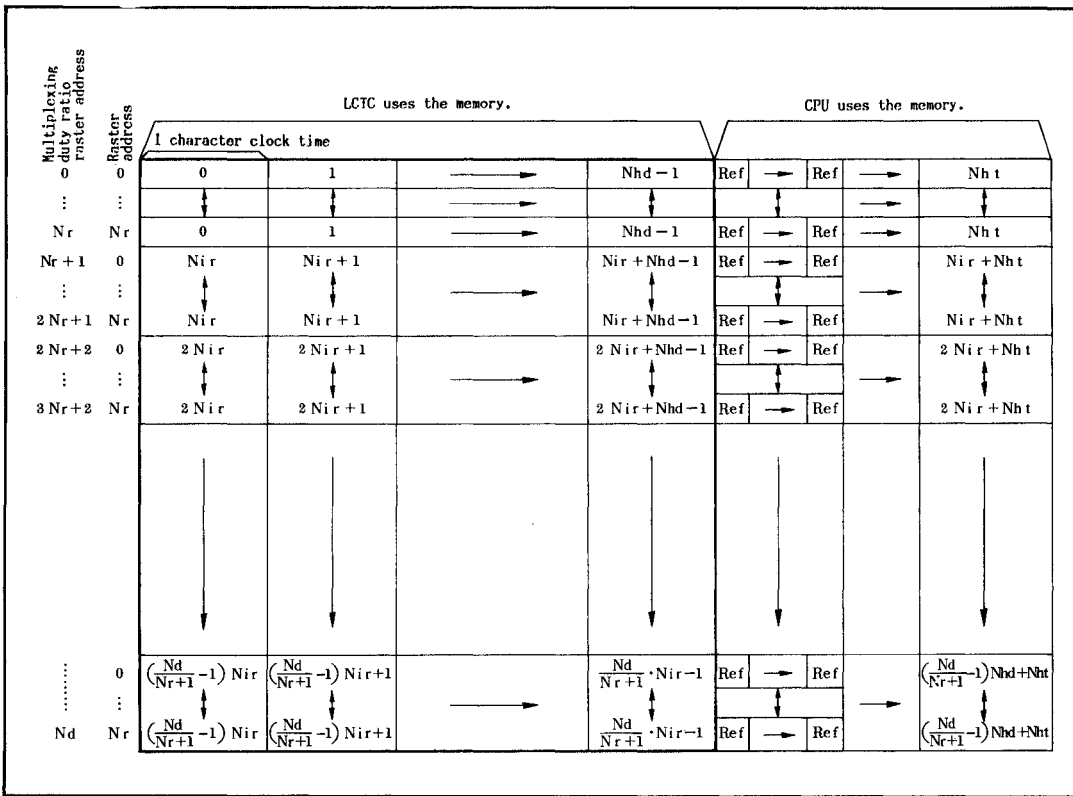

Figure 6-6 Relation between the Number of Displayed Characters and Memory Addresses when $Nir > Nhd$
Figure 6-6 shows the relation between the number of displayed characters and the memory addresses when $Nir > Nhd$. Nir defines the remainder of addresses at the end of each character row. This function facilitates horizontal scrolling. For more details, see Chapter 9, "PAGING AND SCROLLING."
3. Set values in the register corresponding to the screen in Figure 6-6
4. Figure 6-6 shows the screen in mode 5 (single screen, 4-bit data transfer, normal character mode).
2. Set values in the register corresponding to the screen in Figure 6-6